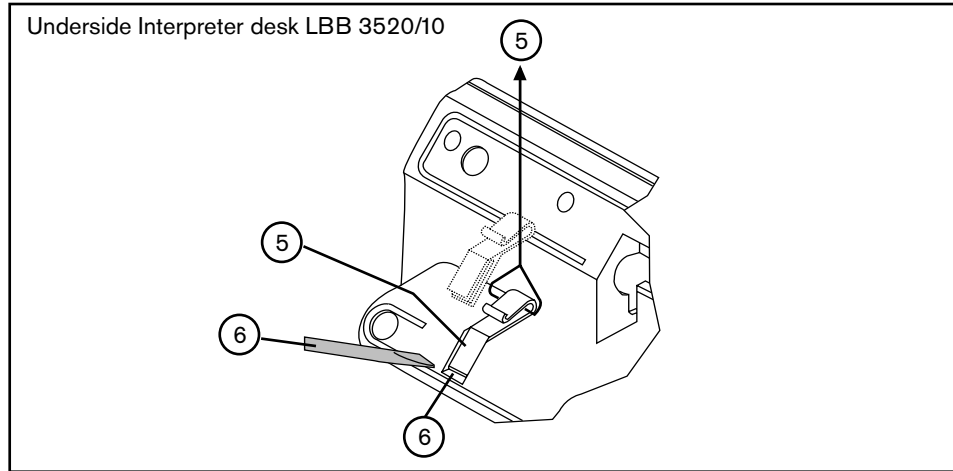

FIG 3-3 Removal of cable guide
3.1.1 Removal cable guide (FIG 3-3) (Interpreter desk LBB 3520/10)